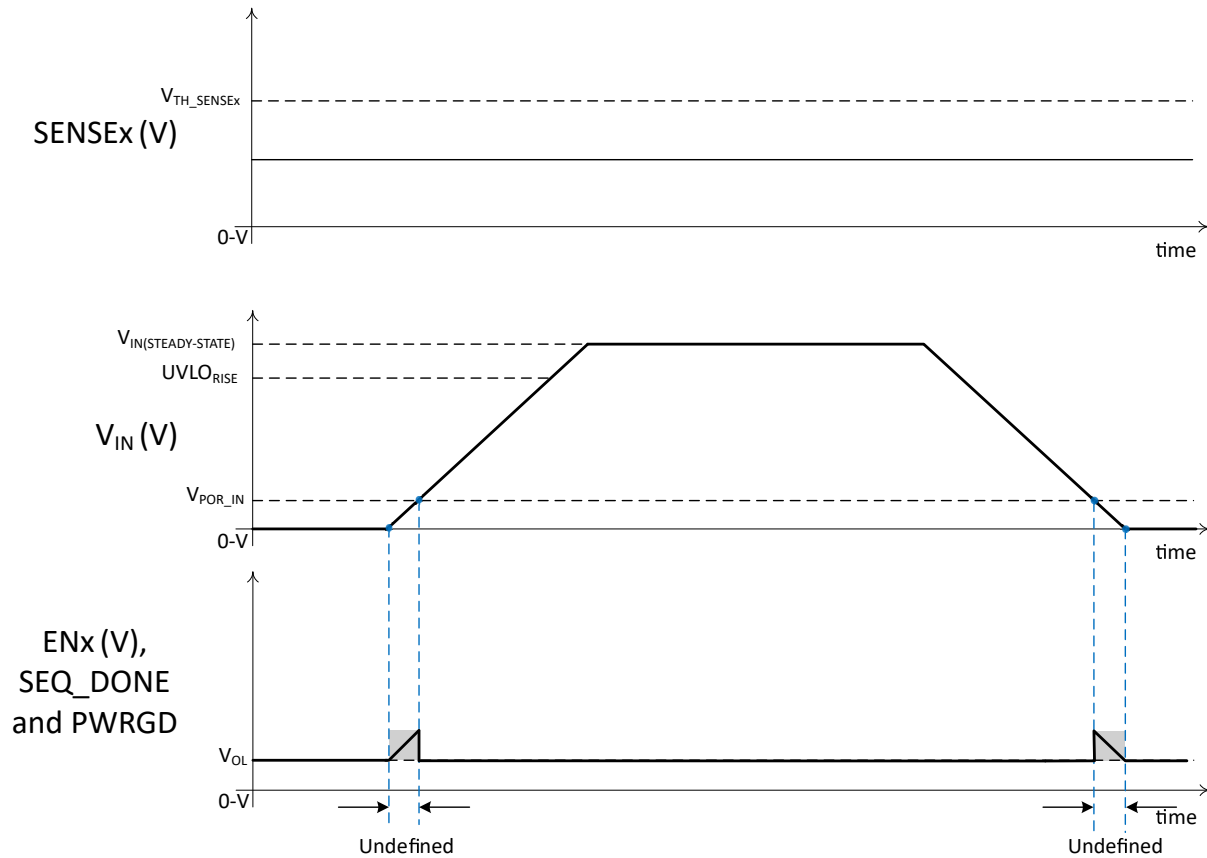

Figure 8-1. Outputs in a Valid Low State After $V_{\text{IN}} > V_{\text{IN-MIN}}$
Figure 8-1 shows the EN_x outputs relationship to a rising input voltage (V_{IN}). As can be observed, the EN_x are undefined when V_{IN} is lower than $V_{\text{POR_IN}}$ (typically 1.41V). During this time the outputs can be any value from 0V to V_{IN} . In this case, the input voltages to all undervoltage (UV) input comparators (SENSE_x) are below the $V_{\text{TH_SENSE}_x}$ (599mV). For this reason (in conjunction with waiting for a rising edge on UP), the EN_x, SEQ_DONE and PWRGD stays low after V_{IN} rises above $UVLO_{\text{RISE}}$ (typically 2.79V).